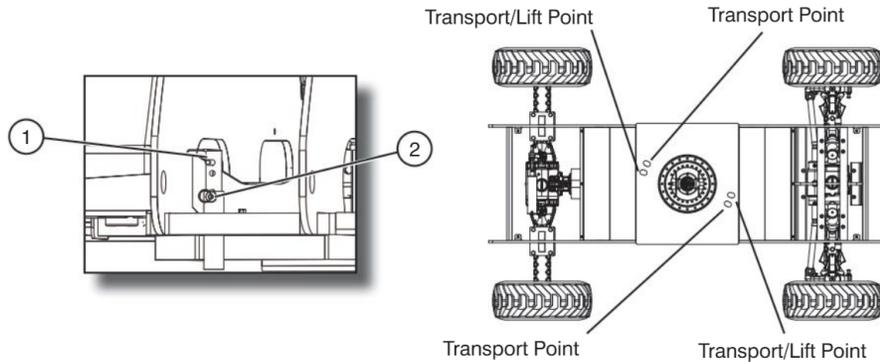

Figure 3-7. 45T Turret Transportation Lock & Locking Points
1. Ensure that turret is positioned so that turret transportation lock (item 1 - Figure 3-7) is aligned into one of four turret locking points.
2. Pull out turret lock retaining pin (item 2 - Figure 3-7). Lower turret lock into locked position and reinsert turret lock retaining pin.
1. Place boom in stowed position (boom lowered and fully retracted, jib fully down, if equipped) centered between drive wheels. Lock turret using turret transportation locking pin (refer to Section 3.10-2) into one of two transport/lift points only (refer to Figure 3-7).